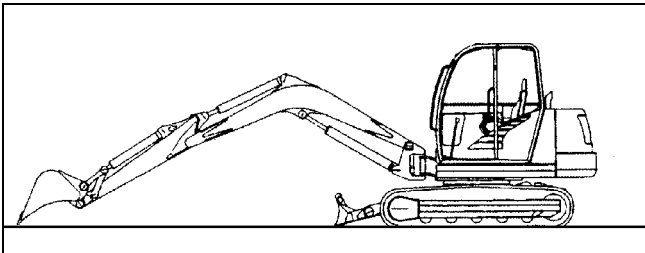
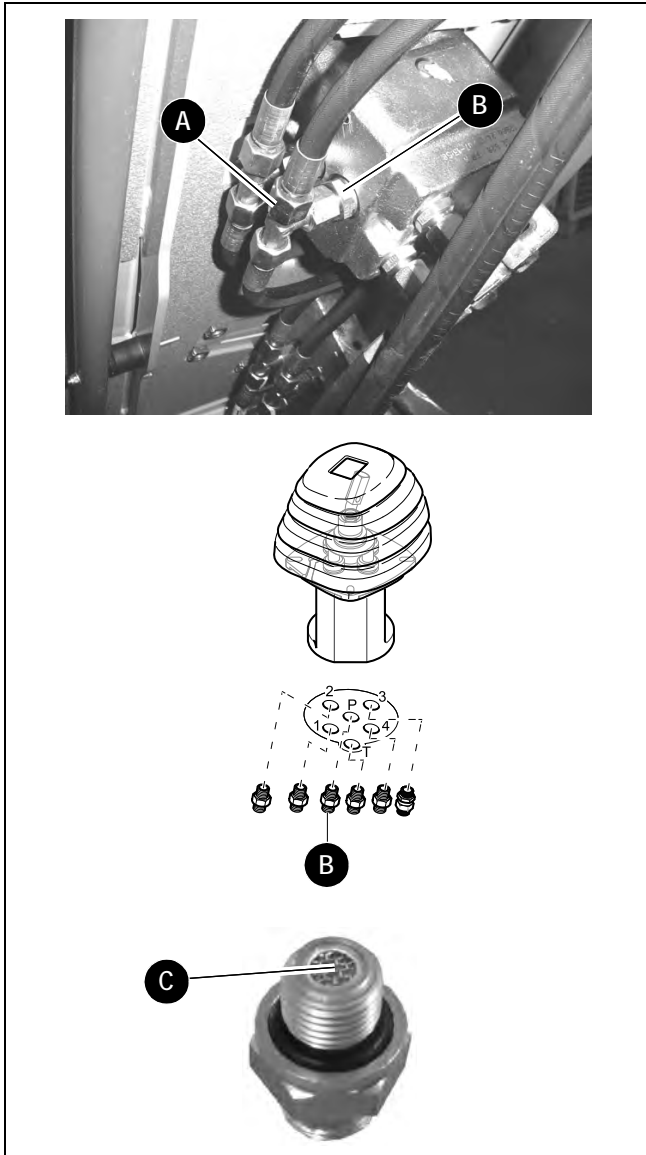

Figure 4-12 Checking and Changing Hydraulic Oil
Figure 4-14 Pilot Control Filter/Restrictor
2. Fully extend the bucket and boom, retract the arm and position as shown in Figure 4-12.
5. Slowly open the hydraulic oil filler cap (4). Remove the cap and the filter insert (5).
5. To relieve pressure, slowly open the hydraulic oil filler cap (4). Re-tighten the filler cap after relieving pressure.
7. Disconnect hose (A, Figure 4-14) connected to the pilot control filter/restrictor fitting (B) on the side of a joystick control valve.